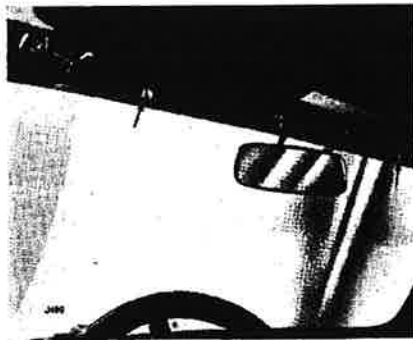

Fig. 24
**Hard Top (Optional) (Figs. 24, 25, 26)**
Figs. 24 to 26 show the hard top attachments.